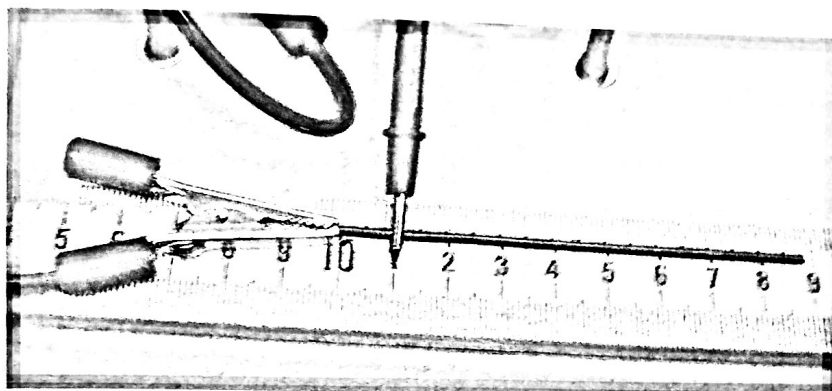

Figure 6: Graphite Rod
4. Set a meter stick next to the graphite rod. You will be touching the probe from the multimeter to the graphite rod at different positions from the alligator clip. This will allow you to measure the current through different lengths of the graphite. See **Figure 6**.